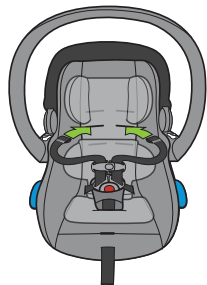

Figure 6
- From front of Carrier, insert the Shoulder Harness Straps through the chosen Shoulder Harness Slots in the Carrier Seat Back as shown in **Figure 6**, ensuring that the Straps are not twisted.